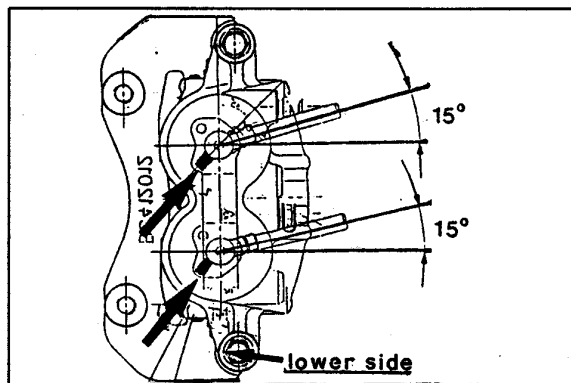

Figure 2
1. When new brake hoses are installed, pay attention to the correct mounting position at the front brake calipers. The fixing hooks of the brake hoses must be fixed into the lower bores at the calipers (mounting angle 15°). For the position of fixing hooks/bores (see figure 2 arrows).